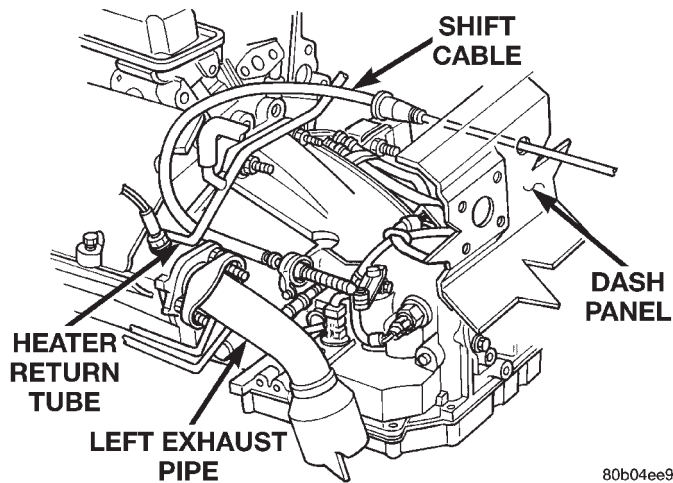

Fig. 25 Shift Cable Routing
(1) Reroute new cable from underside of vehicle. The cable must be routed between the engine block and the heater return tube (Fig. 25).